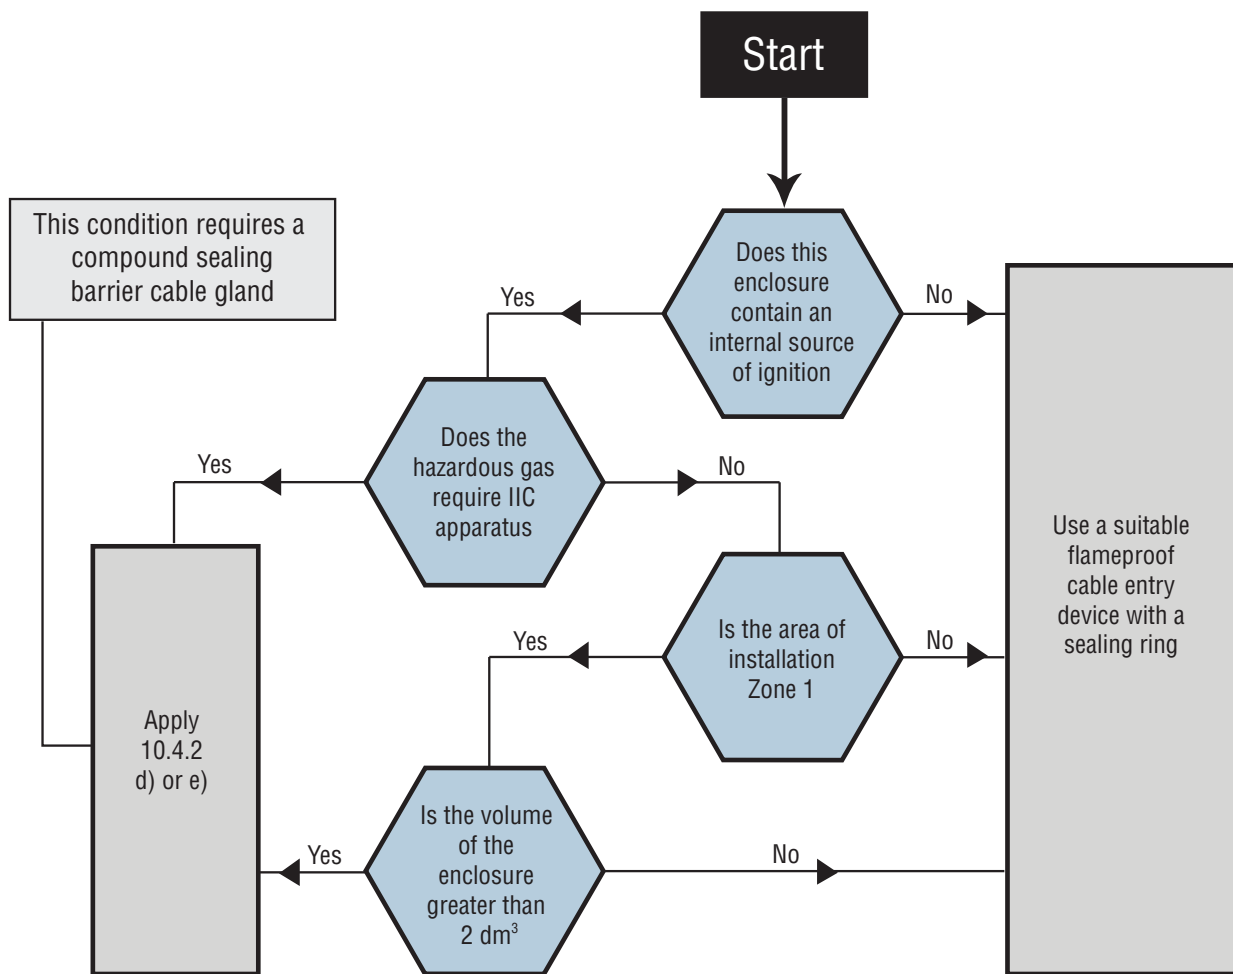

Figure 1: Selection chart for cable entry devices into flameproof enclosures for cables complying with item b) of Section 10.4.2.b.
- b) thermoplastic, thermosetting or elastomeric cable which is substantially compact and circular, has extruded bedding and fillers, if any, are non-hygroscopic, may utilize flameproof cable entry devices, incorporating a sealing ring selected in accordance with figure 1,